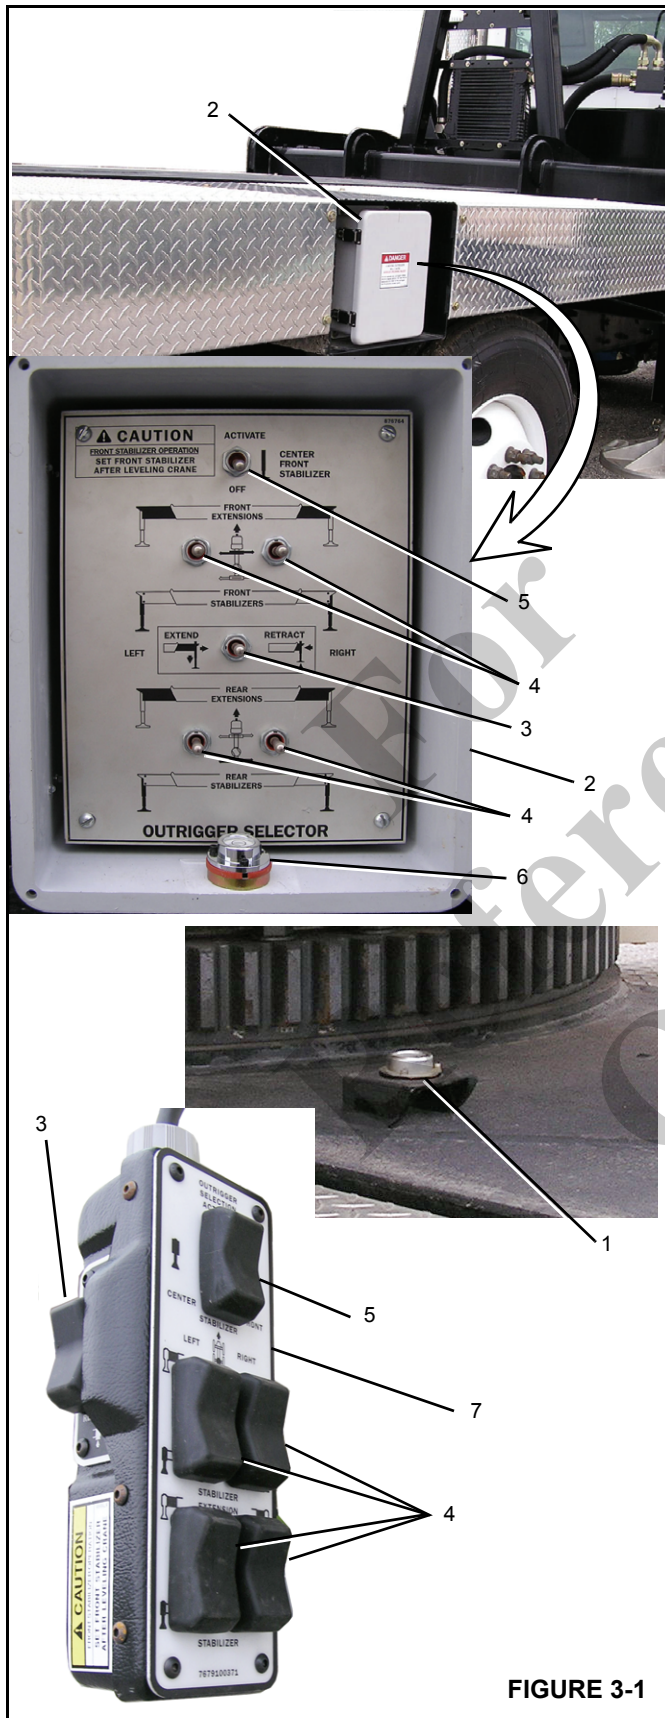

FIGURE 3-1
The outrigger controls (Figure 3-1) are electrically operated and include four outrigger selector switches, a extend/retract switch, and an optional front stabilizer switch. A remote engine throttle is located under the door of the crane cab for engine speed control when operating the outriggers.
The primary level indicator is located behind the turret bearing (1) (Figure 3-1). The secondary level indicators are located in the outrigger control boxes (6) (Figure 3-1).
The outrigger control boxes (2) are located on the side of the crane (Figure 3-1) and contain the outrigger controls.